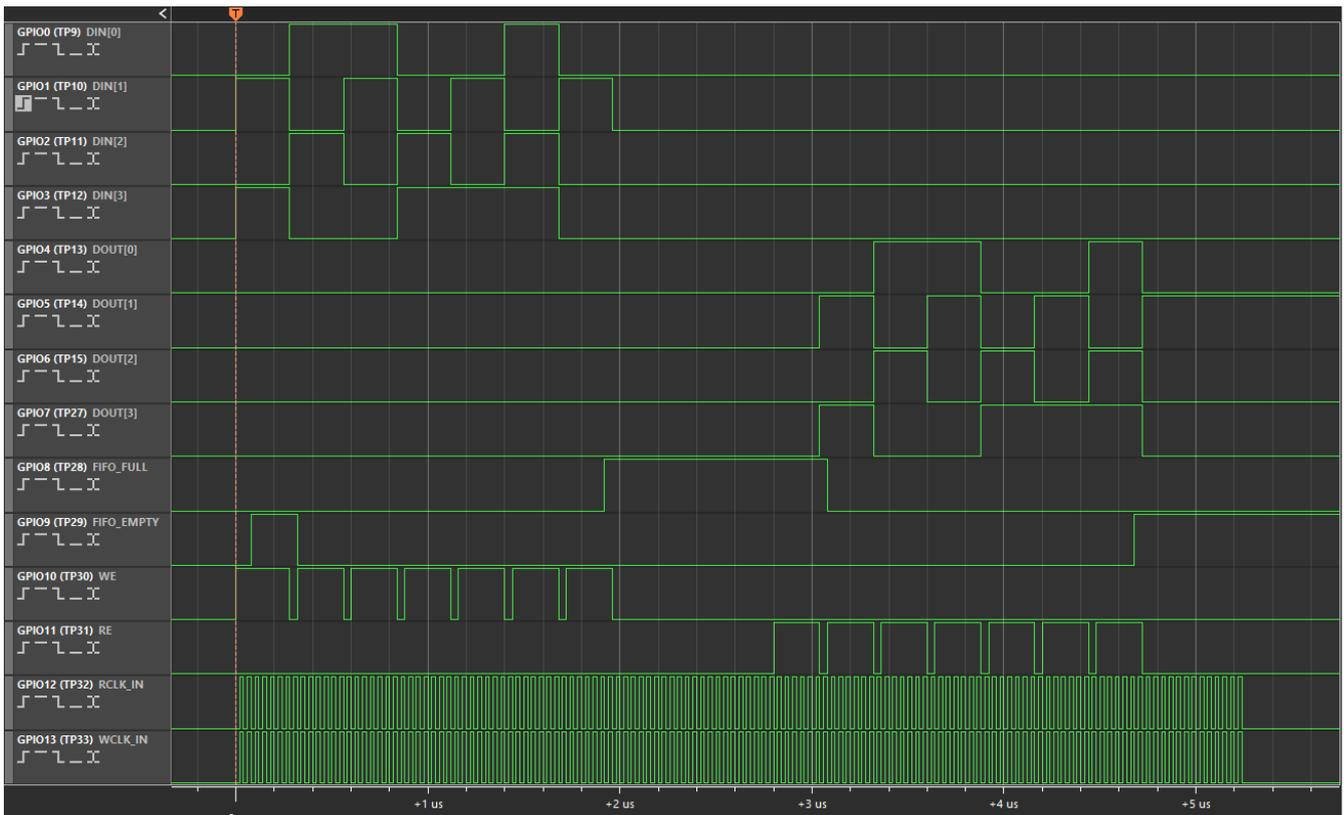

Figure 8: Output on Logic Analyzer
- 10) Apply the desired inputs from GPIO [0-3] and observed the DOUT through GPIO [4-7]. GPIO8 will indicate if the FIFO is full and GPIO9 will indicate if the FIFO pipeline is empty. The user can observe waveforms through the inbuilt Logic Analyzer (Figure 8) or the user can connect the desired GPIOs to an oscilloscope to observe the waveforms.